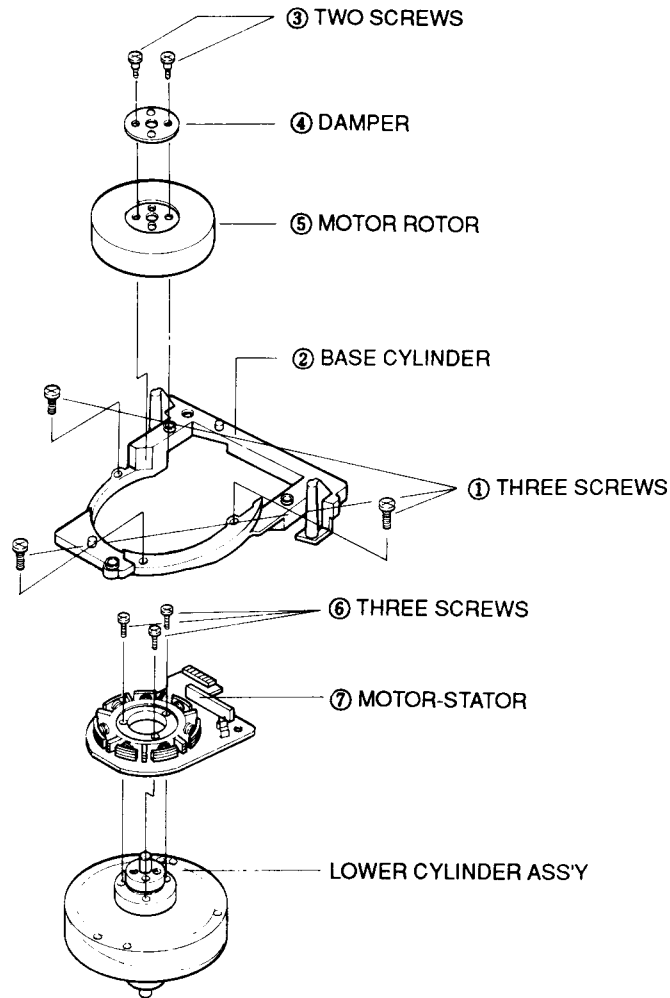

Fig. 24 Cylinder Motor Removal
1. Tighten three (3) screws with the motor-stator. (Refer to Fig. 24)
2. Reinstall the motor-rotor, damper and secure with two (2) screws. (Refer to Fig. 24)